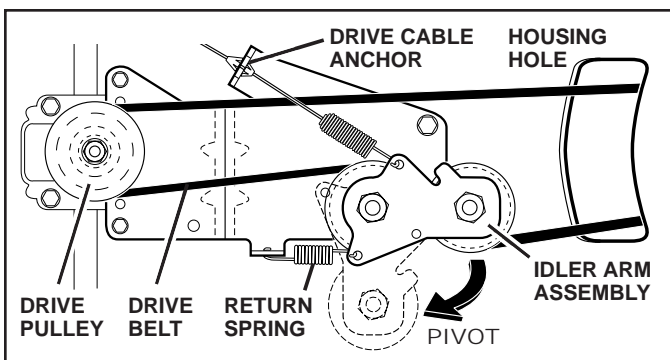

FIG. 18
3. Remove drive cable from anchor, then detach it and return spring from idler arm assembly (See Fig. 18).